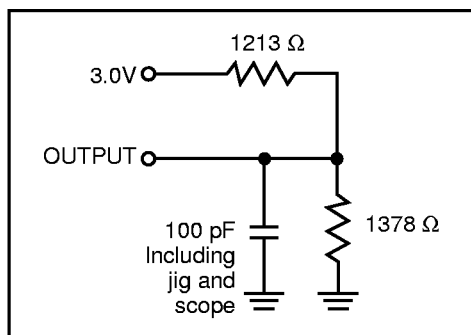

Figure 1. (-70 ns)
- Test conditions assume signal transition times of 5 ns or less, timing reference levels of 1.5V, input pulse levels of 0.4V to 2.2V and output loading specified in Figure 1 and 2.
Output Load	See Figures 1 and 2
1. Test conditions assume signal transition times of 5 ns or less, timing reference levels of 1.5V, input pulse levels of 0.4V to 2.2V and output loading specified in Figure 1.